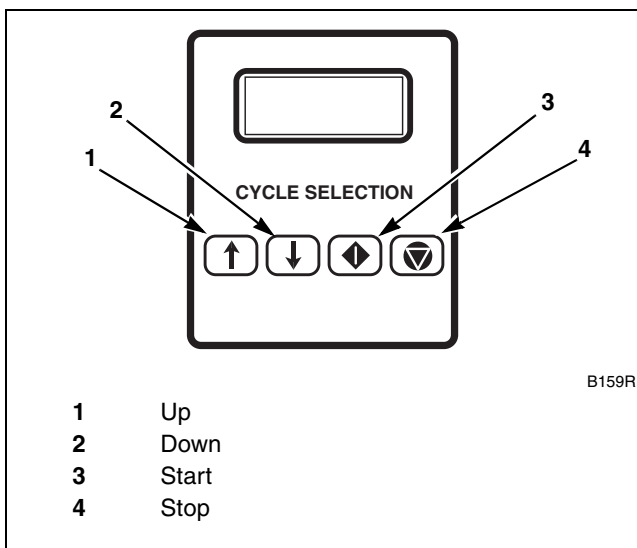

Figure 29
6. Press the Up and Down keys to select wash cycle. Refer to *Figure 29*.
8. **For non-coin models:** Press the Start key. Refer to *Figure 29*.